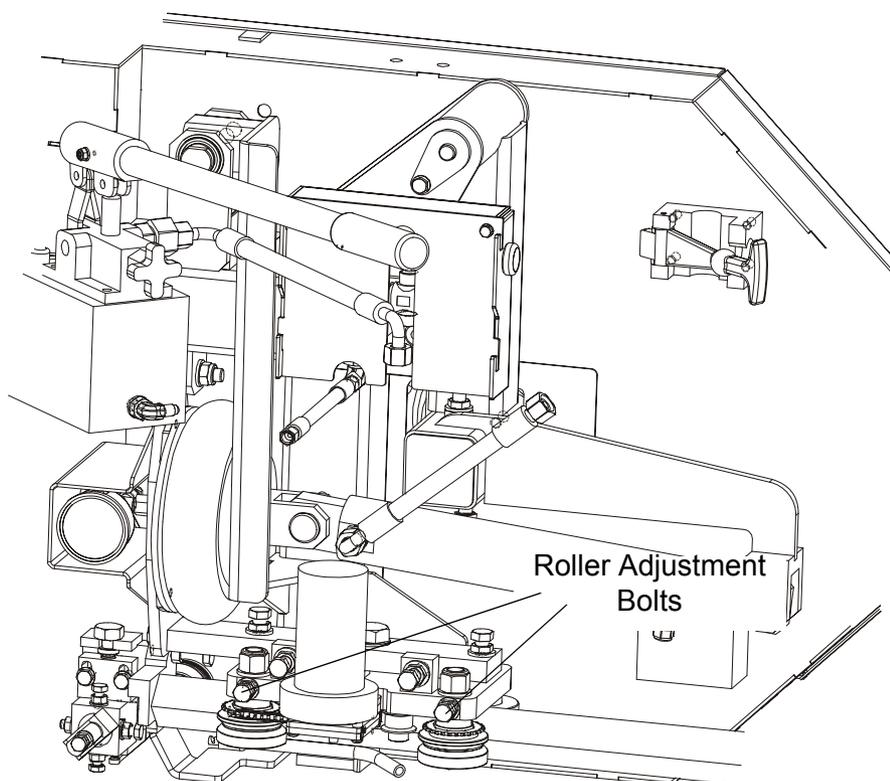

FIG. 5-27
**See Figure 5-27.** Loosen the jam nuts and turn the adjustment bolts in to tighten the blade guide arm rollers. Retighten the jam nuts.